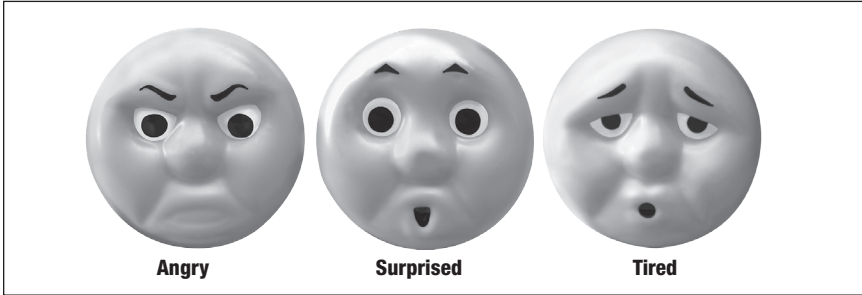

Figure 6. Interchangeable faces
**T**hree interchangeable facial expressions (surprised, tired and angry) easily slip on and off Thomas for fun and imaginative play. Refer to Figure 6.